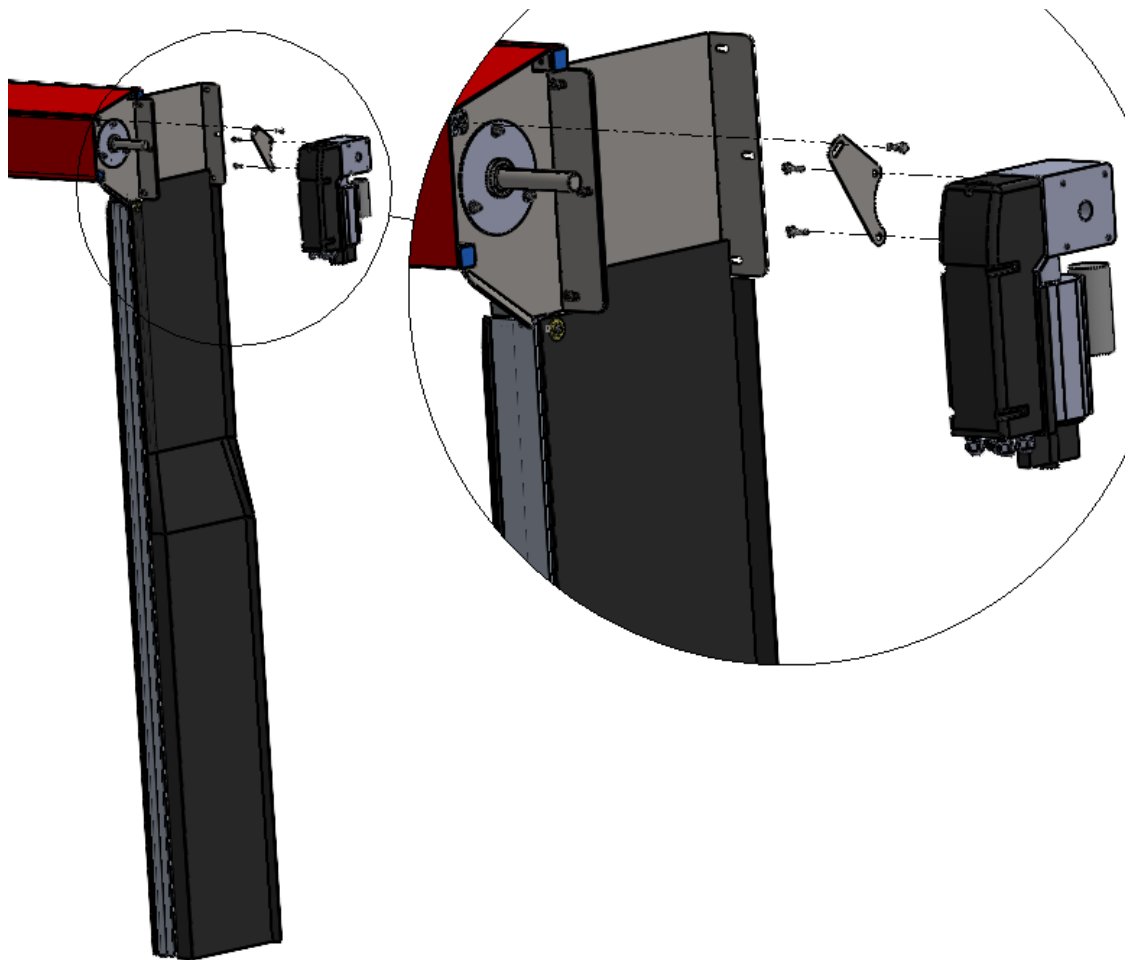

Figure 6 MOUNT ANTI-TORQUE BRACKET AND OPERATOR
1. Mount the Anti-Torque Bracket to the Operator with two (2) Metric screws (supplied). (Figure 6 MOUNT ANTI-TORQUE BRACKET AND OPERATOR)